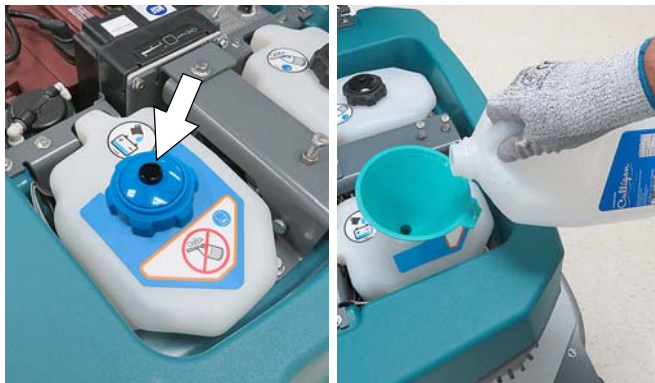

FIG. 105
12. Automatic battery watering option - Refill tank with distilled water (Figure 105). Replace cap.